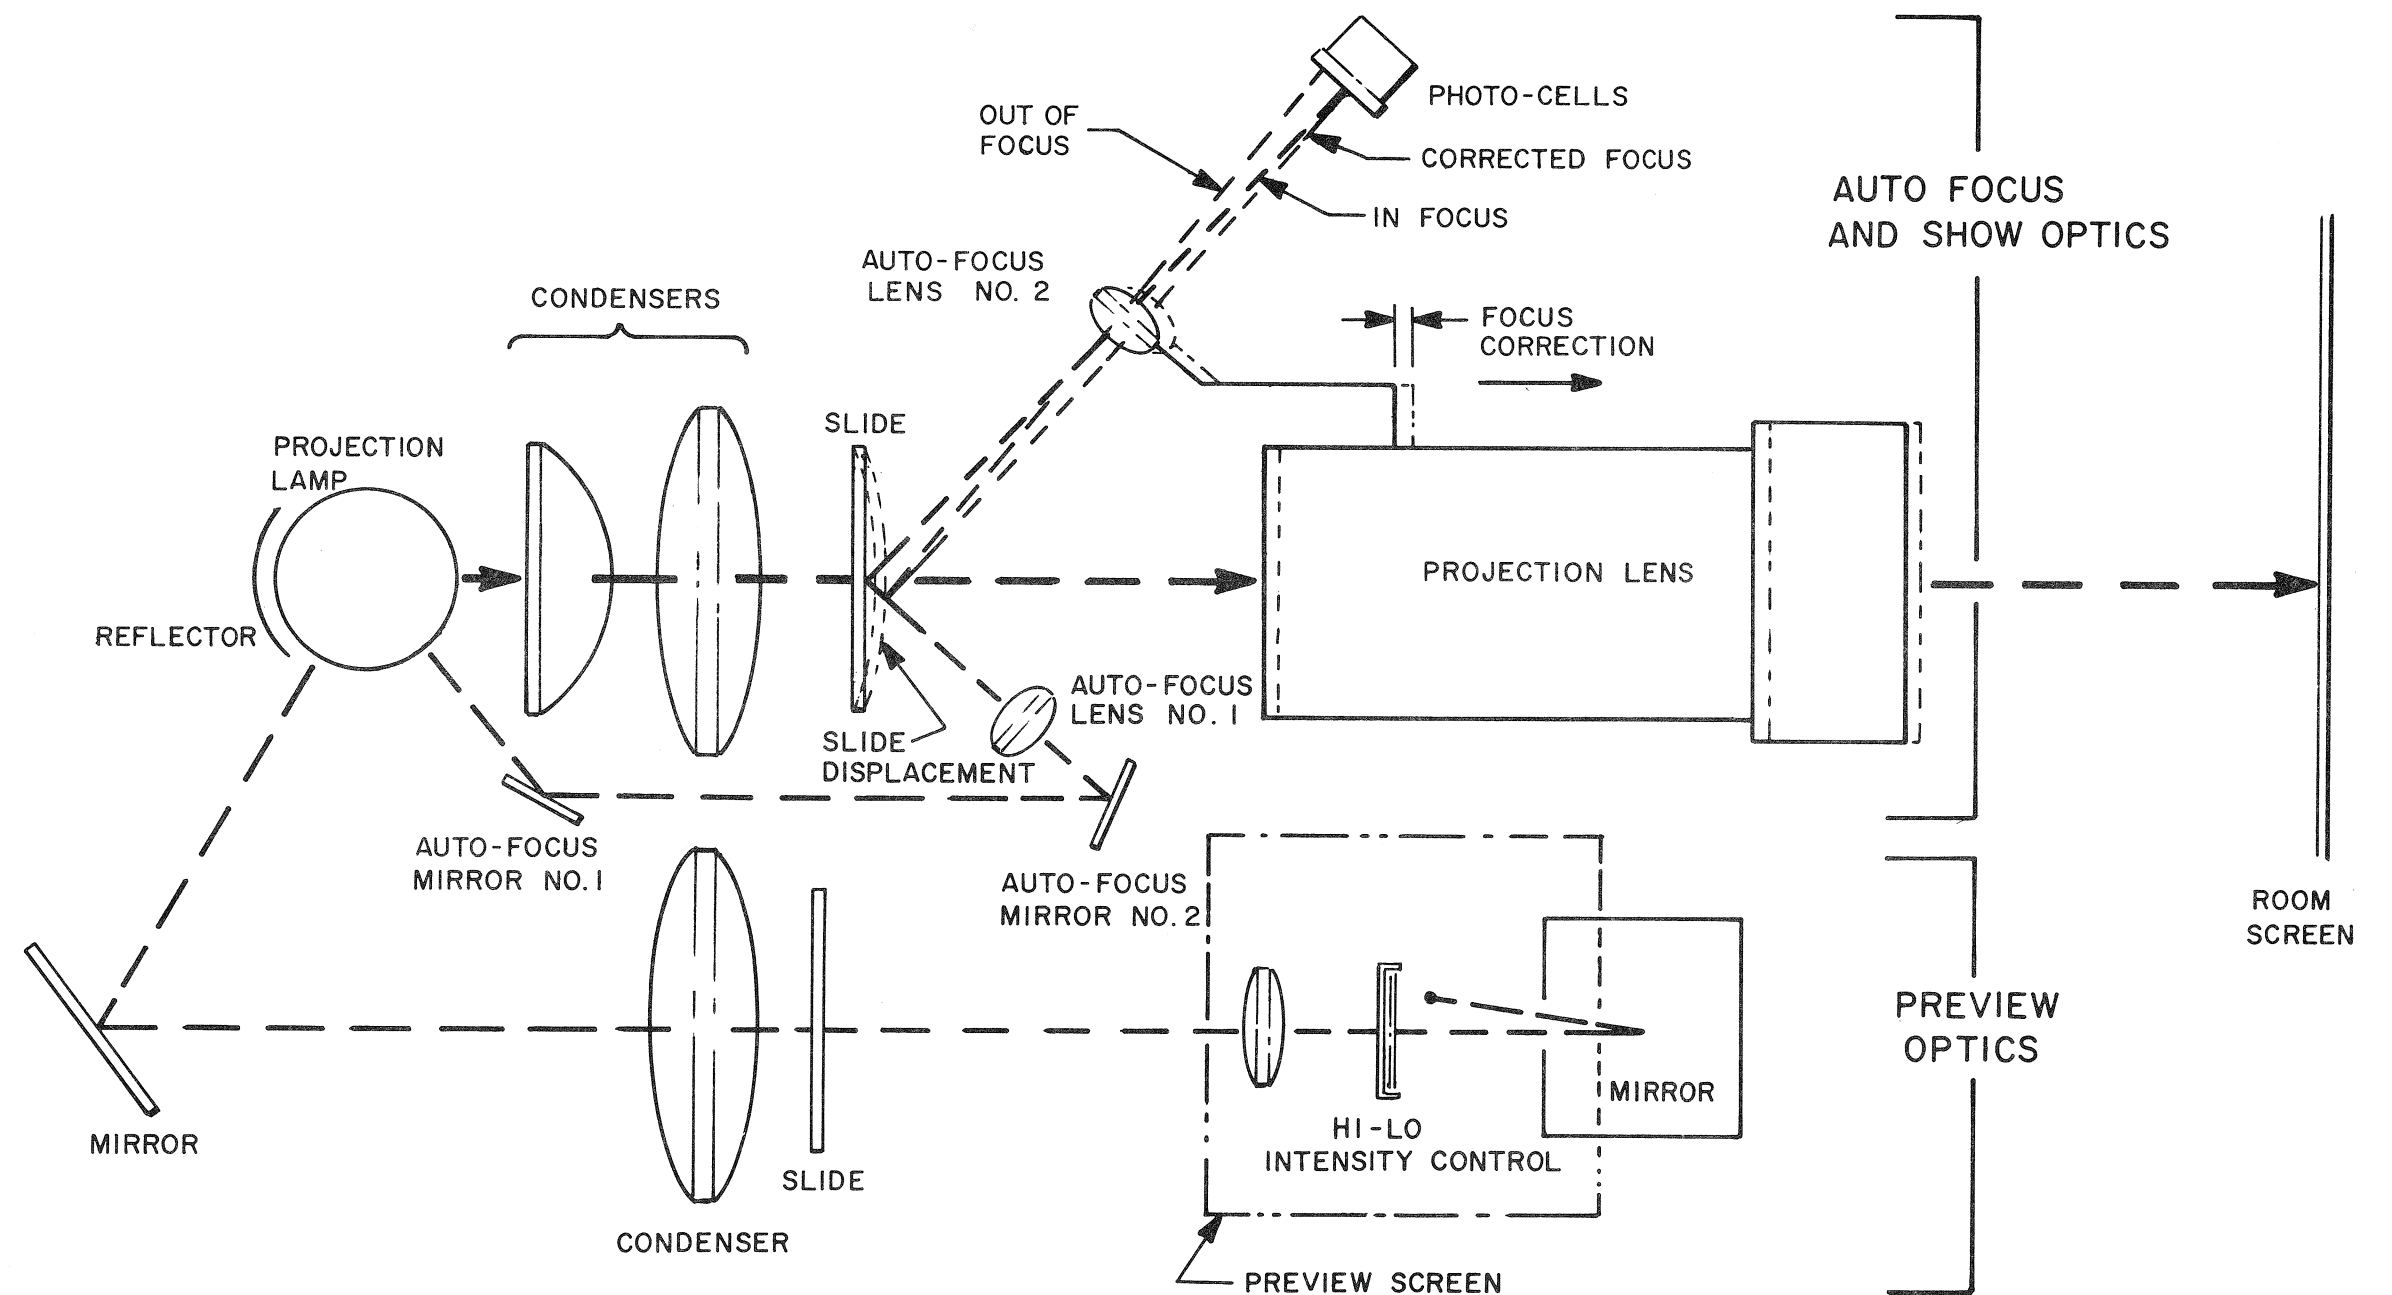

Figure 6-1.
5-21. AUTO-FOCUS ALIGNMENT (See Figure 6-1)
- C. Reflected light beam through the first auto-focus lens (Figure 6-1) should be within the $\frac{1}{4}$ inch square on the target slide.
- D. The light beam through the second auto-focus lens (Figure 6-1 and 51, Figure 6-20) should be near the center of the photo-cell (13, Figure 6-23).
2. Check the auto-focus mirror number one (Figure 6-1) attached to the lamp housing (29, Figure 6-19) to determine light uniformity on the square hole in the aperture assembly between the two condenser lens holders (1, Figure 6-21). If a shadow touches one edge of the hole, bend the mirror slightly so that both edges of the hole are free from shadows.
6. Place a white card directly in back of auto-focus lens number two (Figure 6-1, and 51, Figure 6-20). Rotate the auto-focus gear completely around by hand, watching the light spot on the card. The light spot should remain circular during the complete revolution of the auto-focus gear.